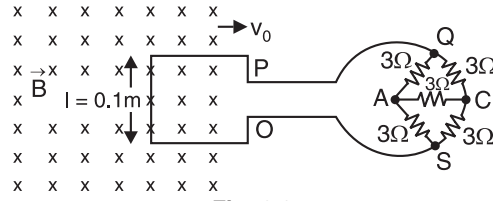

Fig. 9.6
**Example 9.8.** A square metal wire loop of side 10 cm and resistance 1  $\Omega$  is moved with a constant velocity  $v_0$  in a uniform magnetic field of induction  $B = 2 \text{ Wb/m}^2$  as shown in Fig. 9.6. The magnetic field lines are perpendicular to the plane of the loop directed into the paper. The loop is connected to a network of resistors each of value 3  $\Omega$ . The resistances of lead wires OS and PQ are negligible. What should be the speed  $v_0$  of the loop so as to have a steady current of 1 mA in the loop? Also indicate the direction of current in the loop.